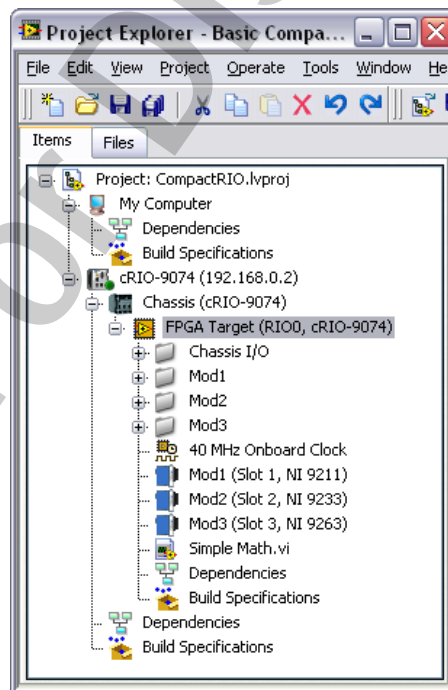

Figure 3-4. Basic CompactRIO.lvproj with VI Executing on FPGA Target
- ☐ The project should now resemble Figure 3-4.